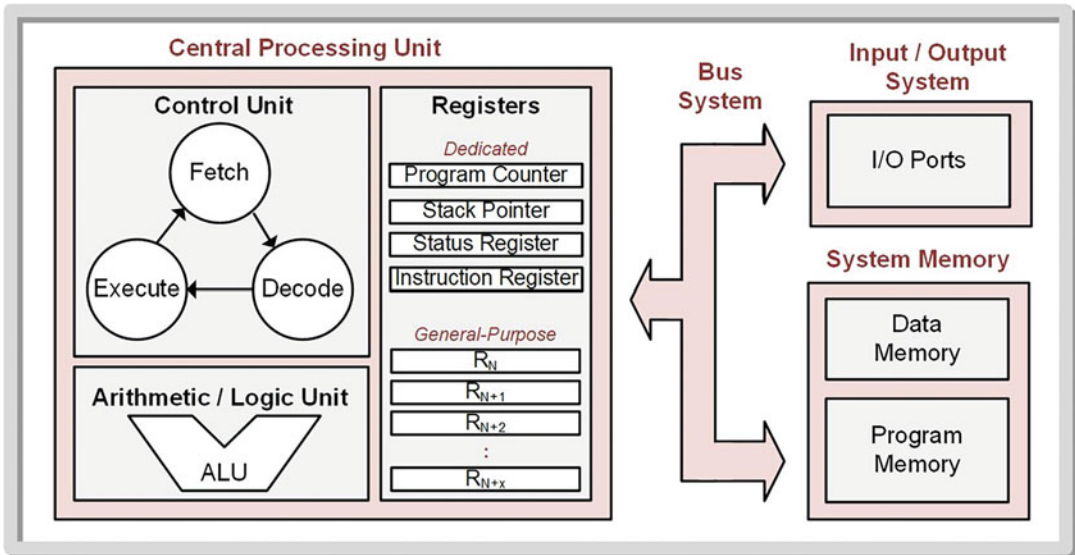

Fig. 3.1
Figure 3.1 shows a block diagram of the basic hardware components in a computer.
- **Program Counter (PC)** – The program counter holds the address of next instruction in program memory to execute. In the fetch state of the control unit FSM, the op-code is read from this address in program memory. As soon as this address is used to retrieve the op-code of the current instruction, the PC is incremented to the next address location in program memory. By incrementing to the next location in memory, the control unit knows where to read the next op-code after the current instruction completes. When a computer first powers up, the PC must be initialized with the address of the first instruction in the program.
- **Stack Pointer (SP)** – The stack pointer provides a way to dynamically allocate variable space in the data memory without having to keep track of specific addresses. The concept of a *stack* and its use in the MSP430 will be covered later.
- **Status Register (SR)** – The status register contains status bits, or *flags*, that are asserted when various conditions occur during the execution of the program. The most commonly used status bits within the SR are two's complement overflow (V), negative (N), zero (Z), and carry (C). These flags are updated based on the results of operations in the ALU.
- **Instruction Register (IR)** – This register is used to hold the op-code/operand that is fetched from program memory during the first part each instruction.
The *arithmetic logic unit* (ALU) is the system that performs all mathematical (i.e., add, subtract, increment, decrement) and logic operations (i.e., AND, OR, XOR, setting bits, clearing bits). This system operates on data being held in CPU registers. The ALU has a unique symbol associated with it to distinguish it from other functional units in the CPU as shown in Fig. 3.1. The ALU also contains logic to produce status bits that provide the ability for subsequent instructions to react to particular results. The status bits coming from the ALU are carry (C), negative (N), zero (Z), and two's complement overflow (V). These bits are latched into the status register upon completion of the ALU operation.